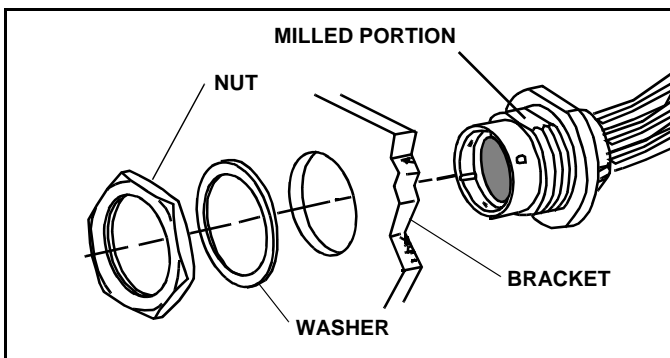

Figure 1-10
17. Mount each plug in the mounting bracket from the vehicle back side. Position the plug with the milled end to the top. Place the washer over the end of the plug and secure with the large nut. (See Figure 1-10)